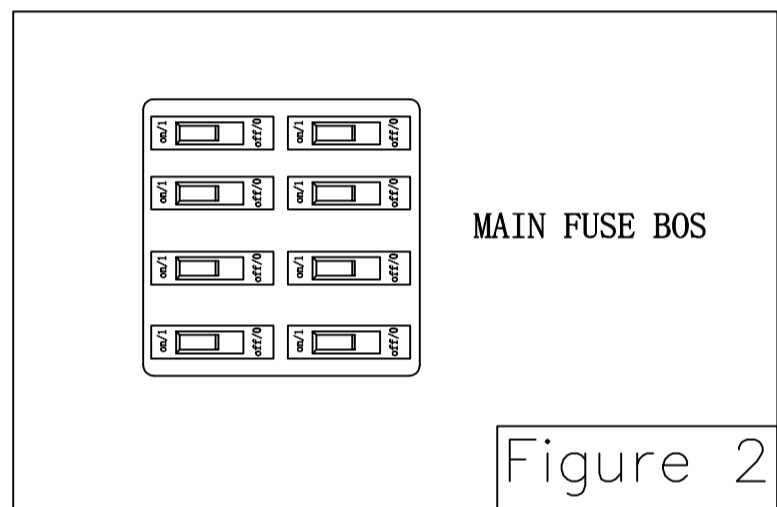

Figure 2
- Remove the hairpin clip and clevis pin from the bottom of the downrod. Retain the pin and clip for reinstallation in Step 4. (Figure 2)
WARNING:The fan must be hung with at least 11.5'ofclearance from floor to ceiling fan. (Figure 2)
To avoid possible electrical shock, be sure electricity is turned off at the main fuse box before wiring. (Figure 2)
Securely attach and tighten the three "L" tabs of canopy screw cover over the three slots of canopy utilizing the key slot twist-lock feature. (Figure 2)
□ Restore electrical power to the outlet box by turning the electricity on at the main fuse box. (Figure 2)